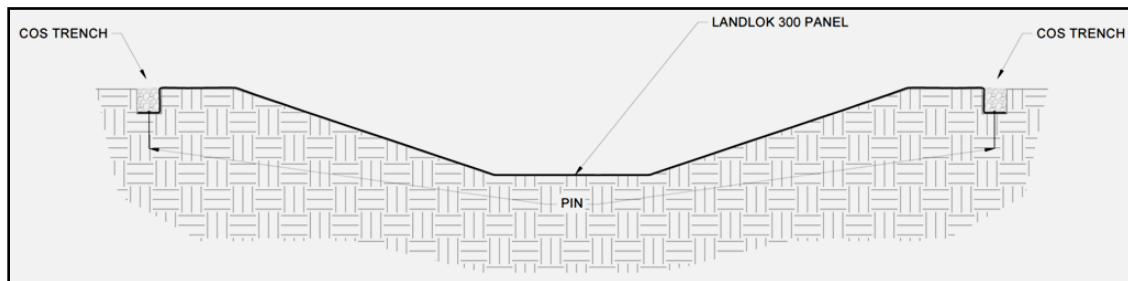

Figure 16: Crest of Slope (COS) Trenches Complete
1. Starting with the downstream end of the site select one of the COS trenches to begin the Landlok 300 Laydown process. To ensure proper anchoring of the overlapped areas the proceeding roll width must be laid out before the current roll width can be anchored with exception to the final roll width at the TC trench. For straight sections of a channel, Landlok 300 panel lengths should be long enough to construct both COS trenches while also covering the surface of the channel being armored. (Figure 16) Panel edges should rest perpendicular to the channel center line. For best results, panels of Landlok 300 should be continuous and free from seams or roll end overlaps that are parallel to the centerline of the channel. Panel edge overlapping should follow a pattern of placing each proceeding panel's edge overtop the previous panel edge, shingling the panels in the direction of the water flow.
8. Secure Landlok 300 with pins in the opposite COS trench. Suggested placement of pins for the opposite COS trench is along the bottom of the trench on 12 in (300 mm) centers (Figure 16).
9. Backfill and compact the opposite COS trench in the location of the first Landlok 300 panel only (Figure 16).